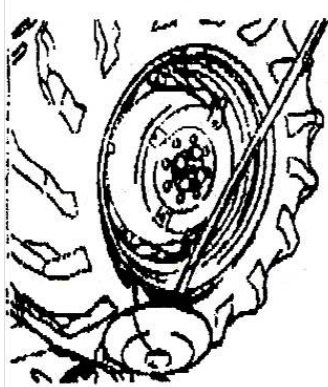

Fig2.9
- 1) Removing the outside edge of the tire. The same as 2.4.2. Hook the edge of the tire with removing and fixing hook. Insert a crown, sledge the outside edge of the tire by pressing the crown down and lower the tire down. The distance between the head of the removing and fixing hook and the edge of the tire is about 5mm (Fig2.9). Turn the tire in the anti-clockwise direction; you can remove the outside edge of the tire.